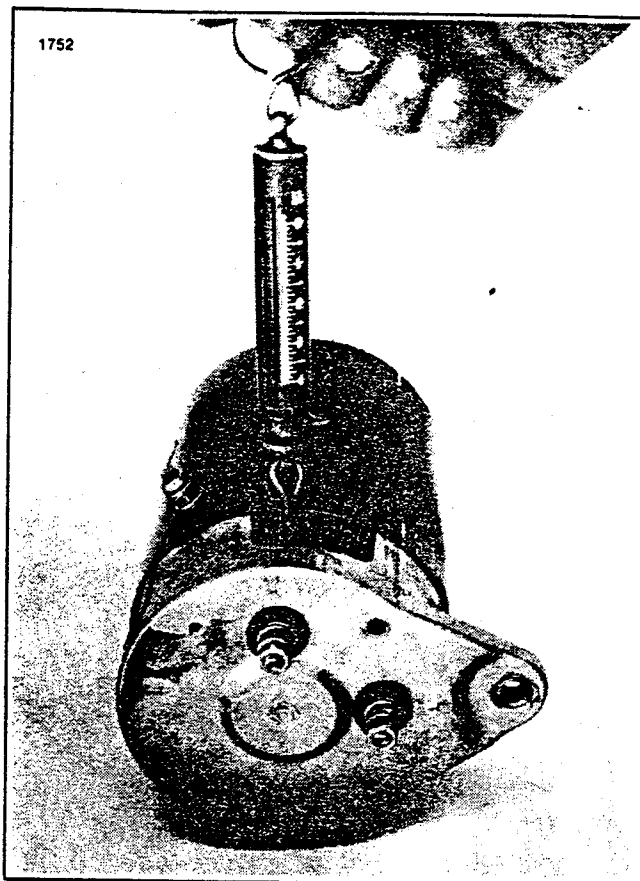

Figure 8-26. Brush Spring Retension
- Test brush spring tension. Use a scale (Figure 8-26) to test spring tension. Reject springs which apply a force less than 28 ± 4 oz. (680.4 grams).